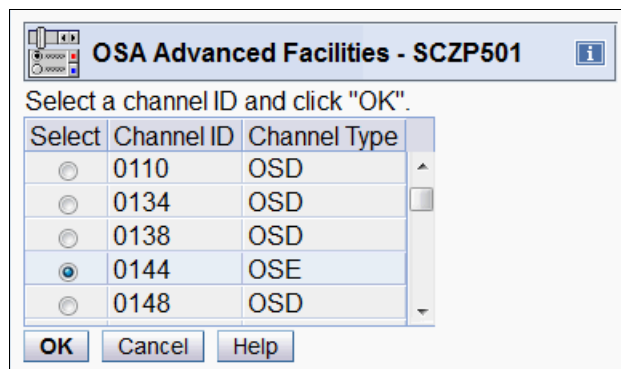

Figure 14-2 OSA/SF on HMC: Selecting CHPID
2. The OSA Advanced Facilities panel opens (Figure 14-2). Select the PCHID you want to customize. In this example, we selected PCHID 0144. Click **OK**.